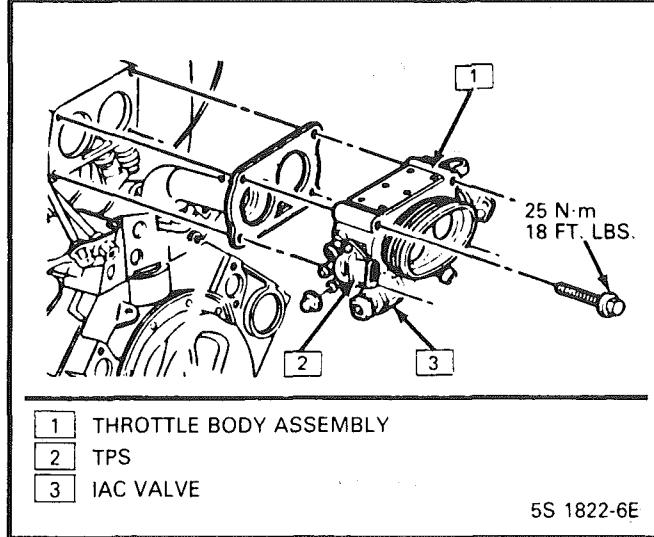

Figure C2-14 Throttle Body Removal
2. Refill radiator with lost coolant. Refer to Figure C2-14 for torque specifications.